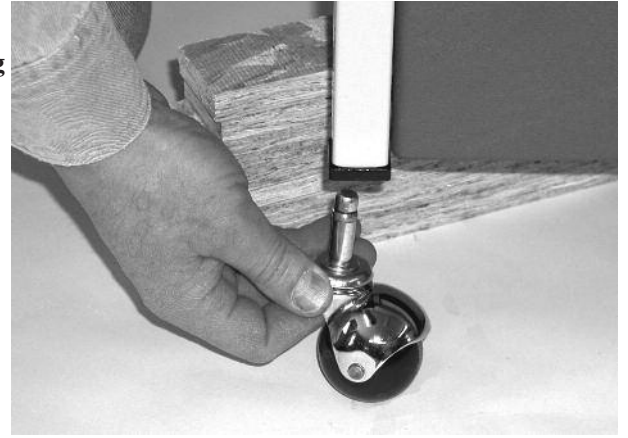

Fig. 1
4. Install wheels (See Fig. 1).